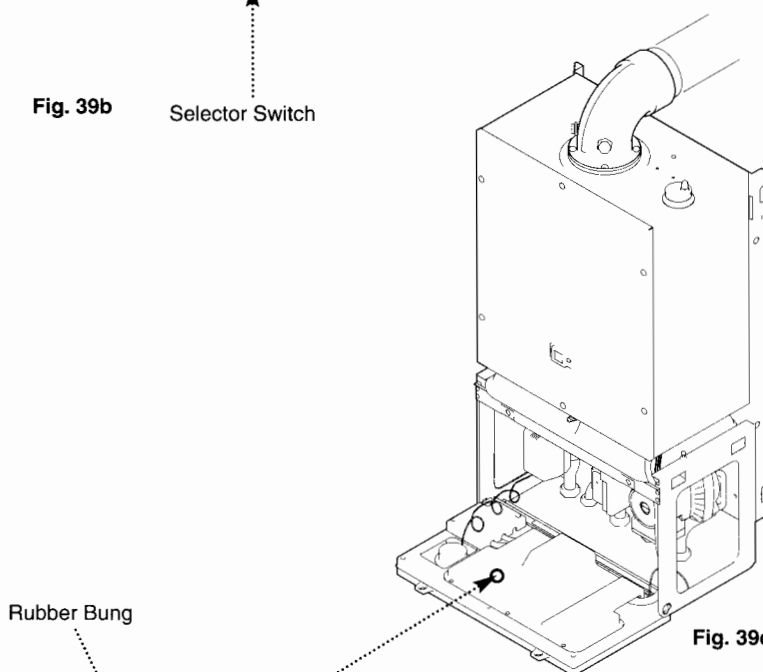

Fig. 39c
2. Remove the rubber bung in the facia cover panel, and identify the central heating pressure control potentiometer (Fig. 39c & 39d).